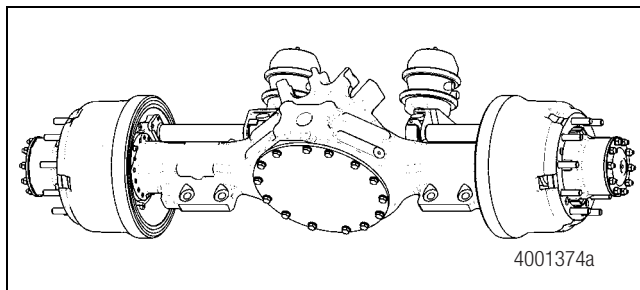

Figure 2.4
- A hubcap is used to keep lubricant in the wheel end instead of an axle shaft. Figure 2.4.